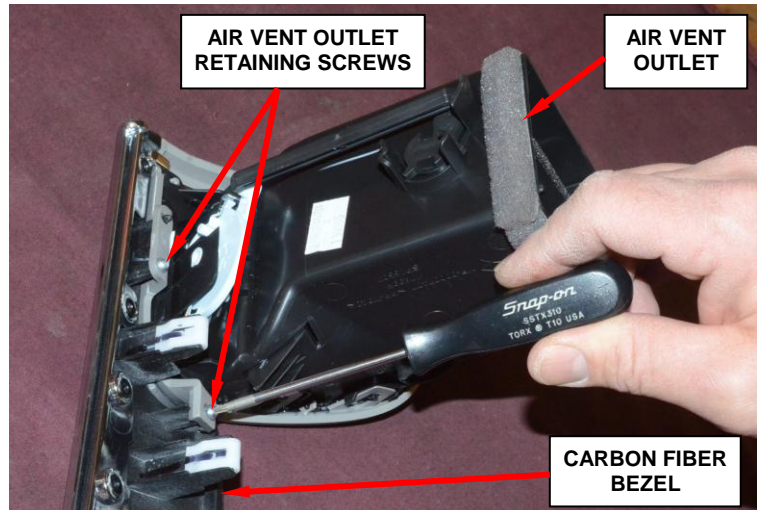

Figure 4 – Air Vent Outlet Retaining Screws
5. Remove and save the two air vent outlet retaining screws and then separate the air vent outlet from the original carbon fiber bezel (Figure 4). Discard the original carbon fiber bezel.